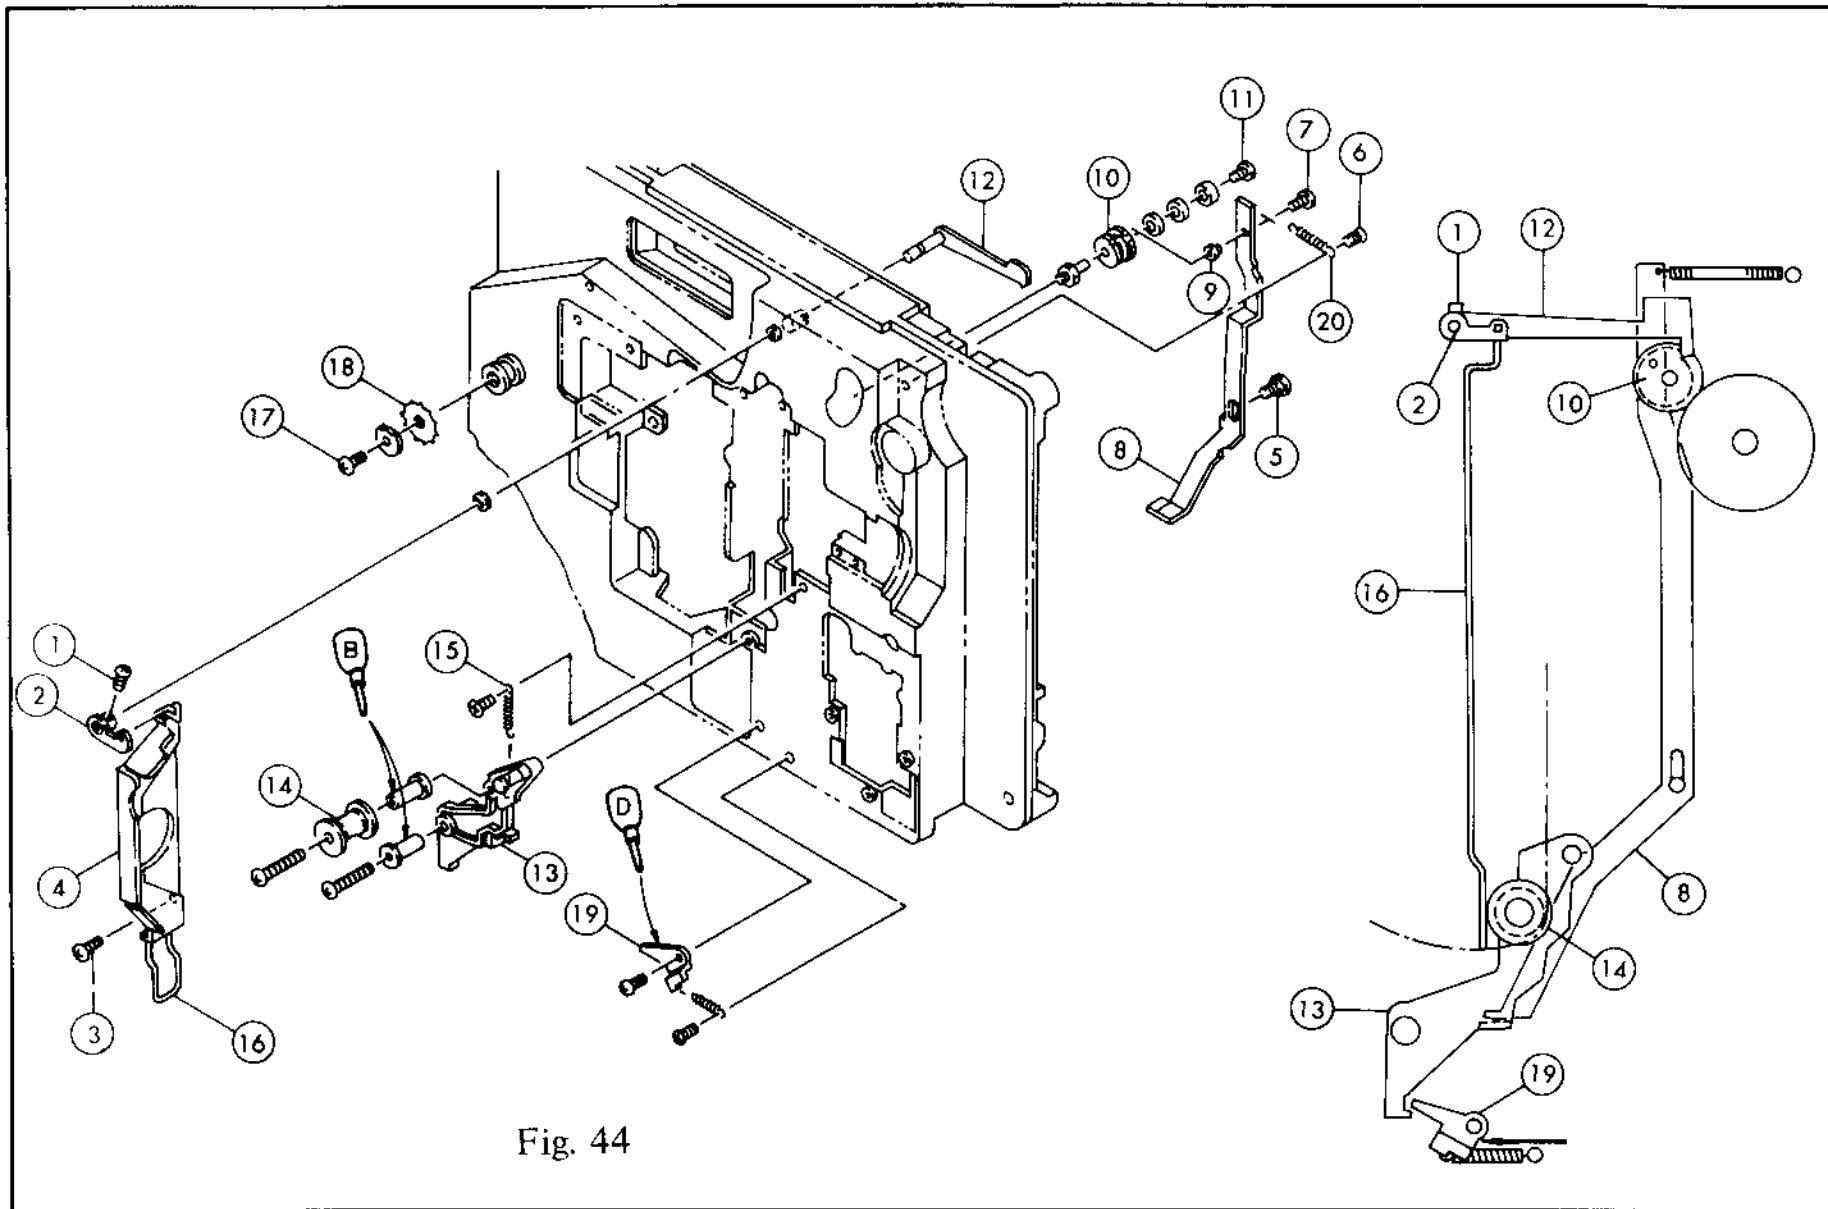

Fig. 44
1. Take out ⑧ by removing ⑤, ⑥ and ⑦, taking care so as not to drop ⑨.
2. Take out ② by removing ①.
3. Take out ④ by removing ③ x 2 pcs.
4. For further disassembly, refer to Fig. 44.